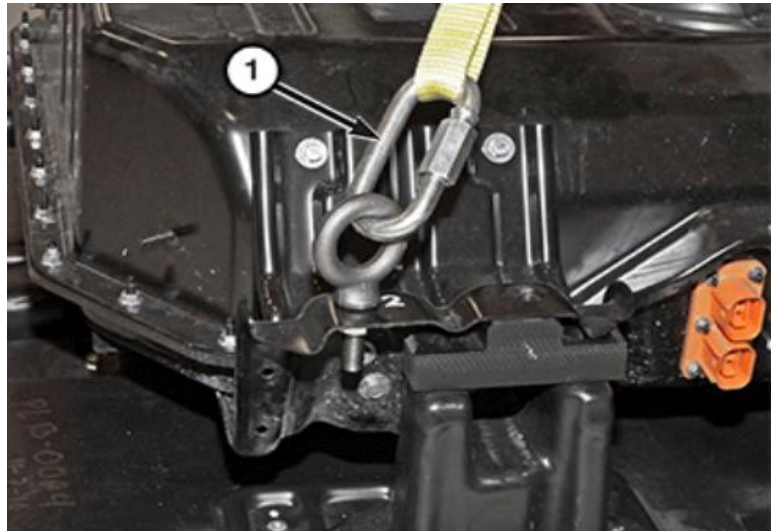

Figure 20 – Lift Straps
35. Install the Lift Straps, HV Battery 2035200080 (1) and remove the high-voltage battery pack from the lifting device. Place the high-voltage battery pack in the shipping container or in a suitable storage location (Figure 20).